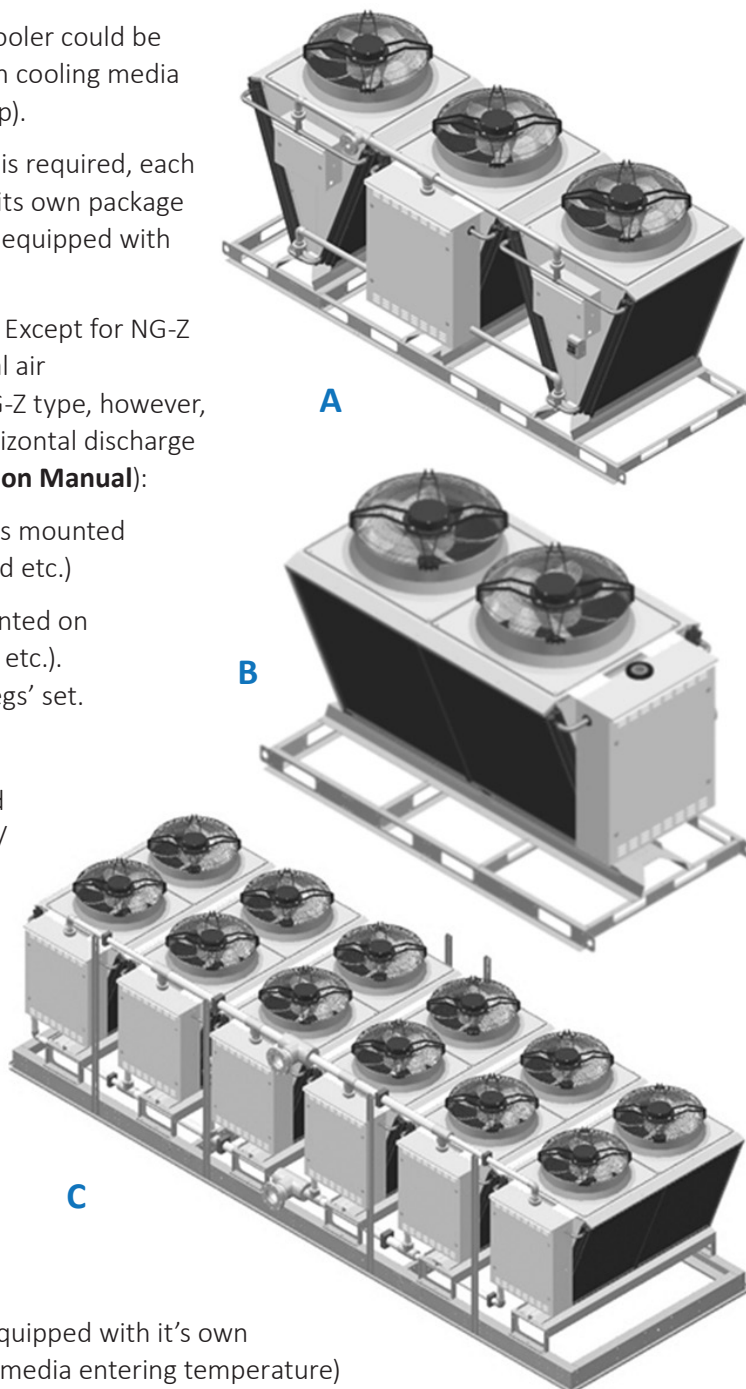

Figure 2. Multiple Fan Dry Cooler Units
- ▶ Except for NG-V-31 (Figure 2-A), all the multi-fan coolers (see Figure 2) are comprised of number (up to six) of NG-V-12 (Figure 2-B) coolers (mounted on the same frame, piped, wired and operating as one single unit).
- ▶ Cooler capacity and number of fans are reflected in its type/ nomenclature: Figure 2-C shows NG-V-62 cooler, comprised of six “two fans — two coils” NG-V-12 sections.
- ▶ *For multi-fans coolers:* If pump package is required, each “two-fan” section, normally, would get its own package (Figure 2-C shows NG-V-62 type cooler, equipped with six pump packages – one per section).